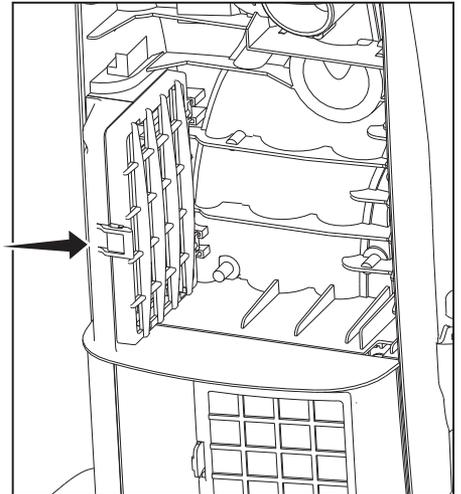

Fig. 2
- Pull the front tab away from the vacuum to remove the filter cartridge (Fig. 2).